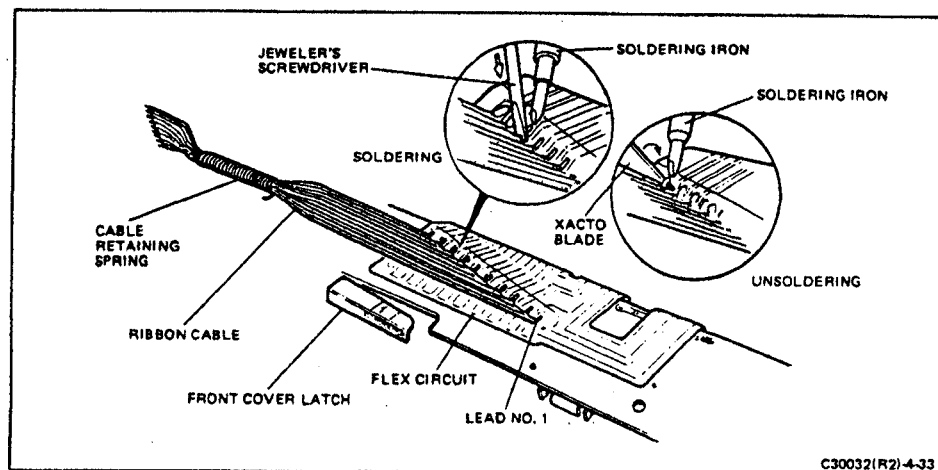

FIGURE 4-33 SOLDERING/UNSOLDERING RIBBON CABLE
6. Refer to Figure 4-33. Starting with lead No. 1 of the cable, insert the point of a sharp blade (a pointed blade Xacto knife is recommended) under the wire. The sharpened edge of the blade must be held so that it makes physical contact with the junction point of the wire lead and the solder pad of the flex circuit. Do not insert the point of the blade beyond lead No. 1.
*NOTE: If the cable on the shutter has more or fewer leads than the number of pads on the flex circuit, refer to item 2 in the Repairs/Adjustments paragraph immediately following for the proper method of installing it.*
7. Refer to Figure 4-33. Place the blade of a jeweler's screwdriver on top of the bare end of the No. 1 lead exactly at the point where the insulation begins. Press down firmly to create a positive heat sink. (This prevents the insulation from melting back on the lead.)